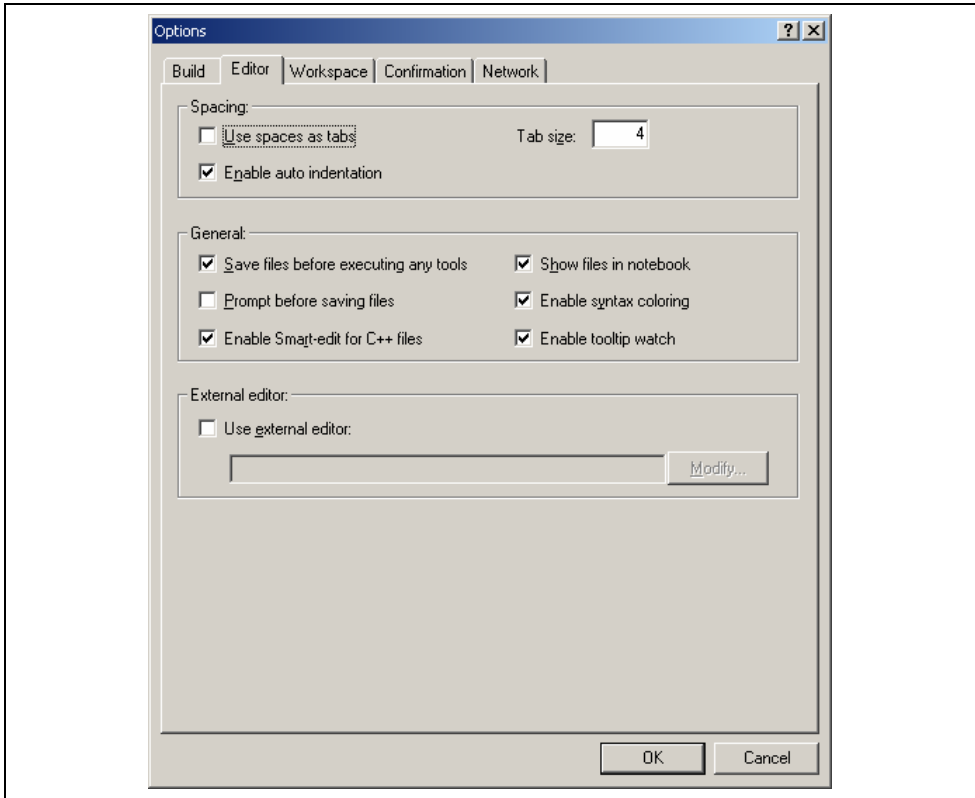

Figure 4.7: Options Dialog Editor Tab
1. Select [**Tools->Options...**]. The “Options” dialog will be displayed. Select the “Editor” tab (figure 4.7)).
1. Select [**Tools->Options...**]. The “Options” dialog will be displayed. Select the “Editor” tab (figure 4.7).
1. Select [**Tools->Options...**]. The "Options" dialog will be displayed. Select the "Editor" tab (figure 4.7).